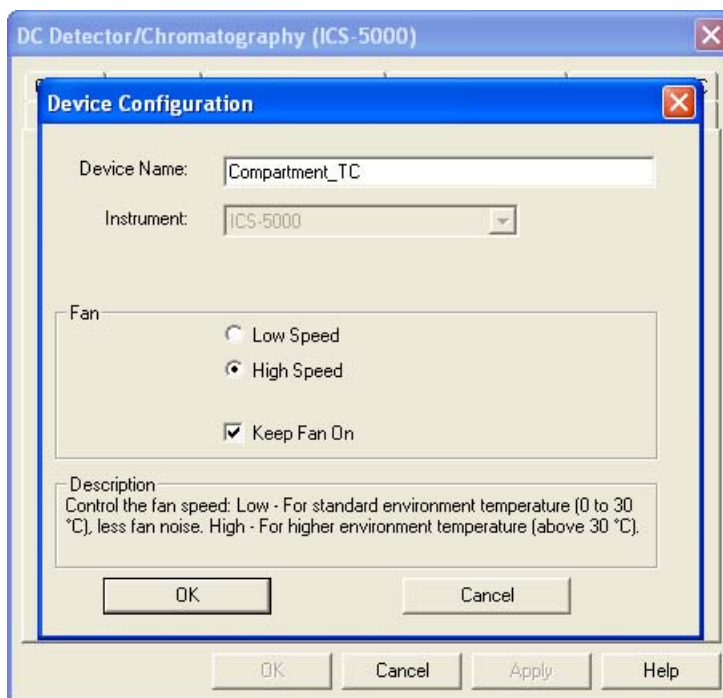

Figure 2-25. Setting the DC Upper Compartment Fan Speed
4. Under **Fan**, click **High Speed** (see Figure 2-25).